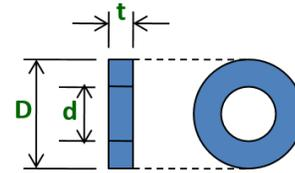

Figure 15. Size of Washer
- Metric screw M4 with JIS B 1256 flat washers (D:9mm, d:4.8mm and t:0.8mm as in Figure 15)